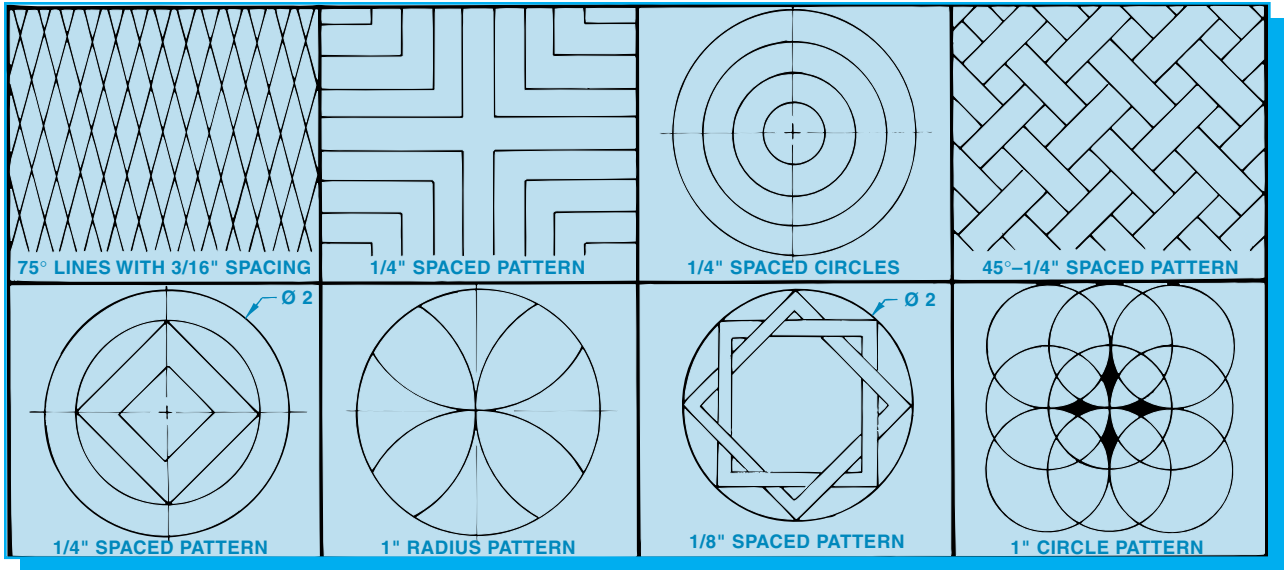

Figure 2-42
3. Practice drawing the line work in **Figure 2-42** with drafting instruments, freehand, and with a CAD system.